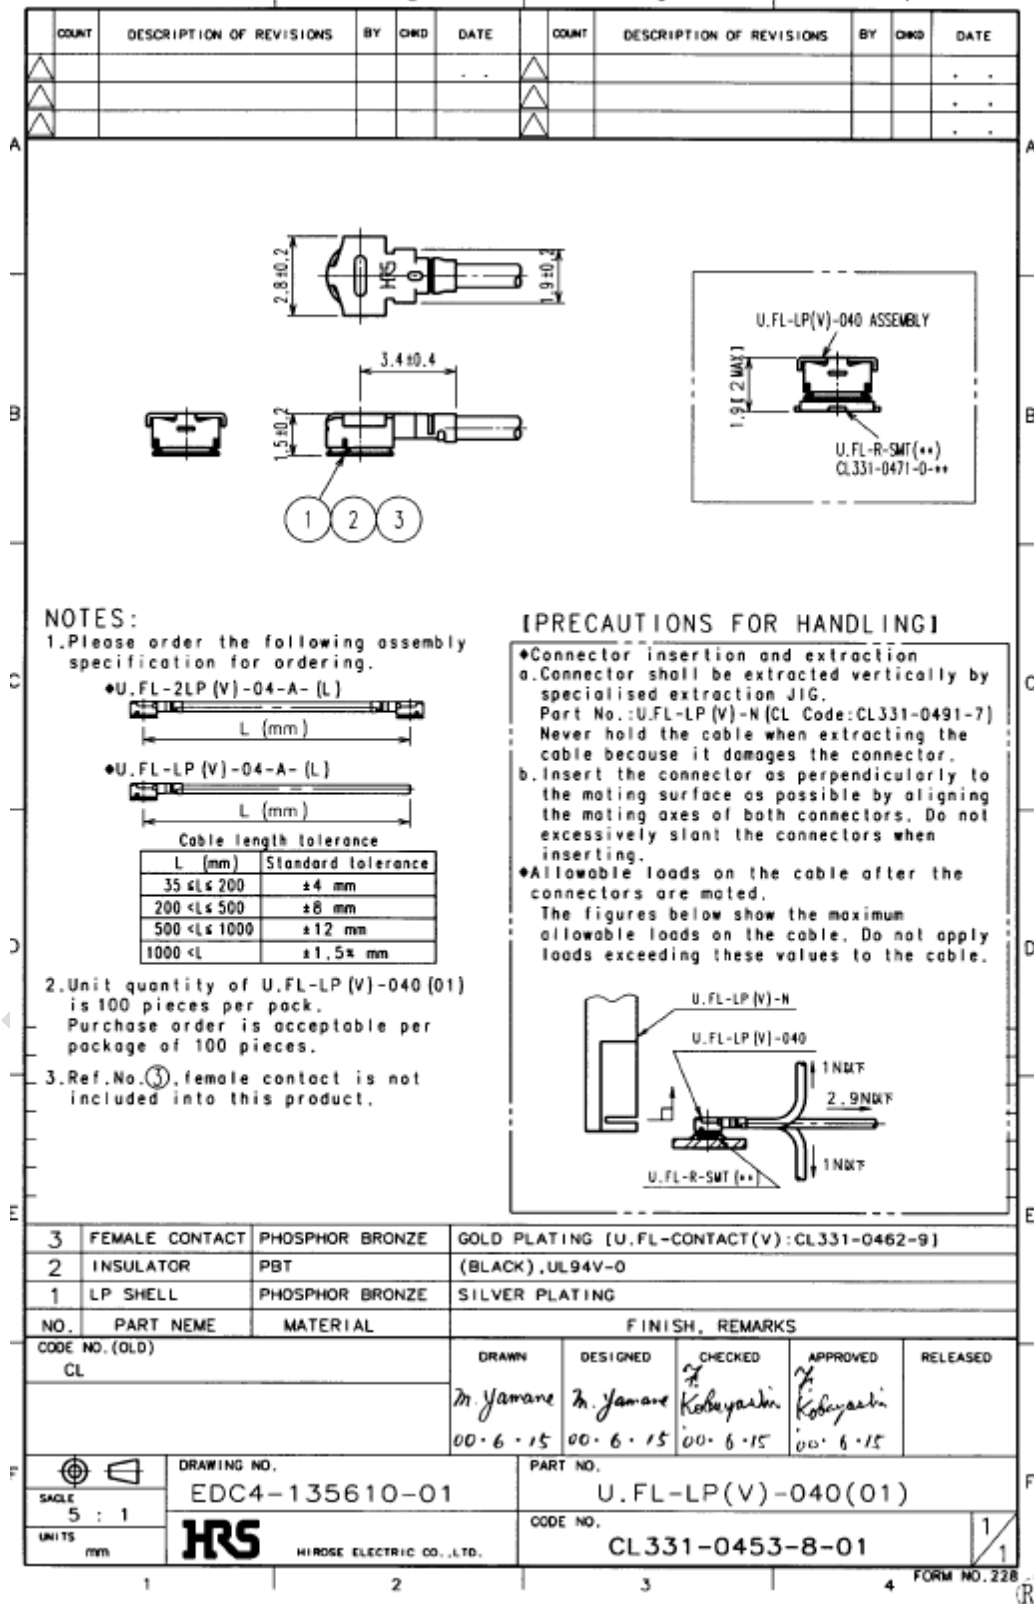

Figure 36: Specifications of U.FL-LP-(V)-040(01) plug
In addition to the connectors illustrated above, the U.FL-LP-(V)-040(01) version is offered as an extremely space saving solution. This plug is intended for use with extra fine cable (up to  $\varnothing 0.81$  mm) and minimizes the mating height to 2 mm. See Figure 36 which shows the Hirose datasheet.